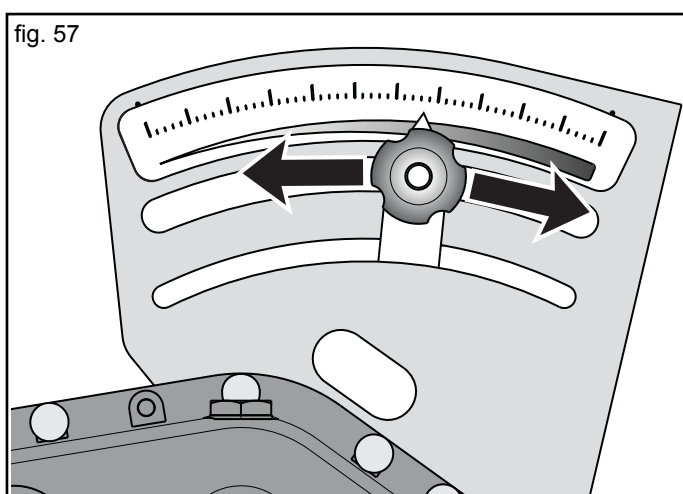

fig. 57
- 7) ... move the lever to bottom of scale «0» (zero) and then set it to the value indicated (depending on the quantity of product to be distributed), by rotating the adjuster knob (Fig. 57).